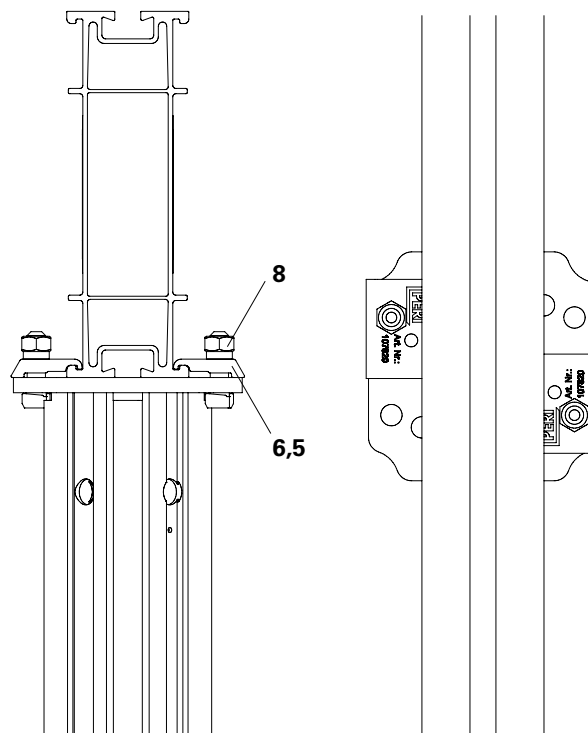

Fig. A6.02
Assembly takes place with two diagonally-arranged MULTIPROP Straps MPB 24 (6.5) and MP Bolts with Nuts (8). (Fig. A6.02)